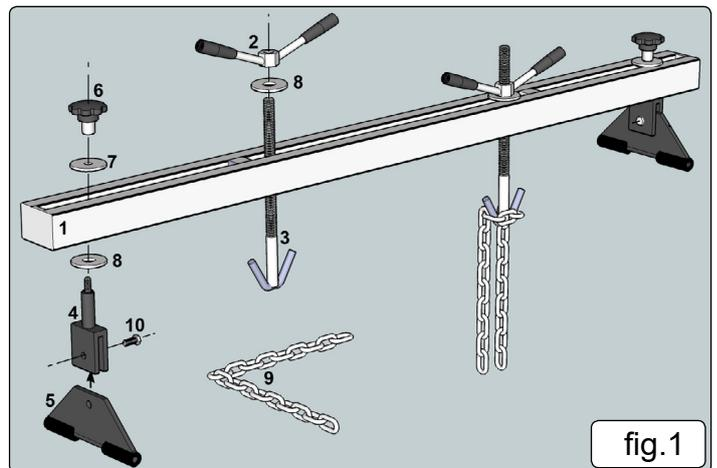

fig.1
4.1. Refer to fig.1.
**Note:** Numbers in brackets refer to item numbers shown in fig.1
- 5.1. Insert a foot (5) into the slot in the standing block (4). Align the holes in the two components and join them together using an M12 x 25 bolt (10). Note that the standing block (4) has a threaded hole on one side and a clearance hole on the other.
- 5.2. Place a large washer (8) over the upstanding rod on the standing block (4) and insert the rod through the slot in the main support guide from underneath. Place a large washer (7) over the thread on top of the rod and secure the assembly to the main support guide by screwing on a grip knob (6) as shown in fig.1. Assemble the other foot/standing block and fix the assembly to the other end of the main guide beam in the same way.